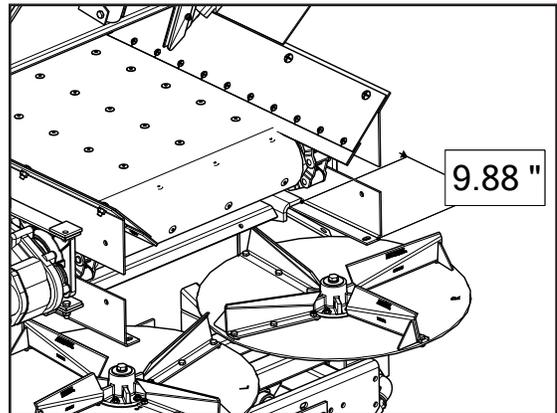

Figure 2
- Figure 2 - Measure from the Spinner Frame mounting flange to the end of the Sill on each side. Measurement should be  $9\text{-}7/8''$  (25cm). Measurements must be equal, or no greater than  $1/8''$  (0.3cm) off overall.